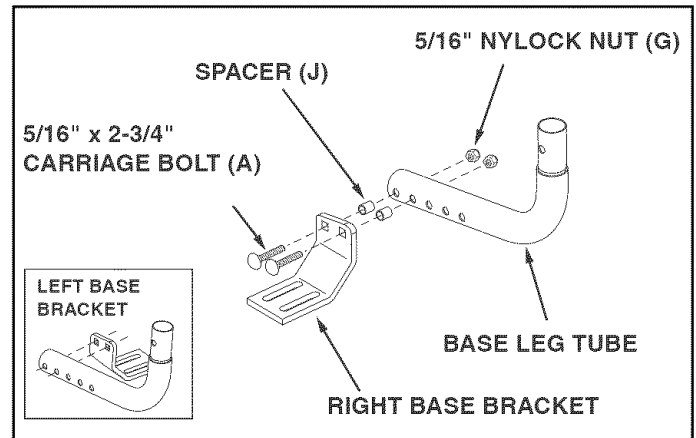

FIGURE 5
STEP 5: (SEE FIGURE 5)
- Attach the right base bracket to the front holes of a base leg tube that does not have a flattened end, using two 5/16" x 2-3/4" carriage bolts (A), two spacers (J) and two 5/16" nylock nuts (G). **Make only finger tight.** Repeat for the left base bracket.